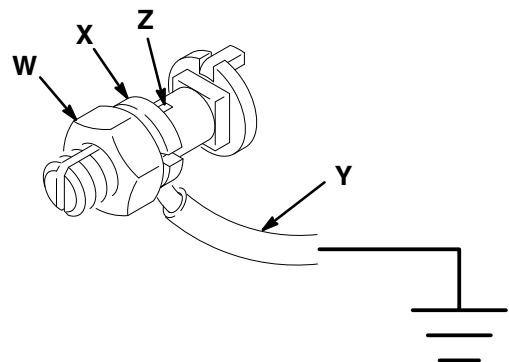

Fig 1
1. *Pump:* use a ground wire and clamp. See Fig 1.
To ground the pump, loosen the grounding lug locknut (W) and washer (X). Insert one end of a 1.5 mm² (12 ga) minimum ground wire (Y) into the slot in lug (Z) and tighten the locknut securely. See Fig 1. Connect the other end of the wire to a true earth ground. See the ACCESSORIES section to order a ground wire and clamp.